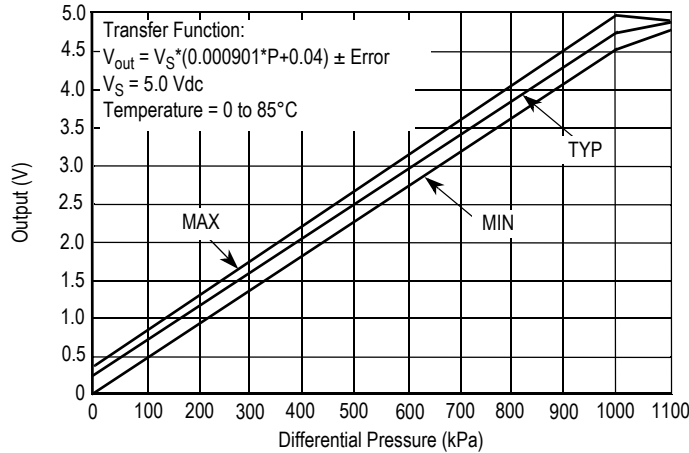
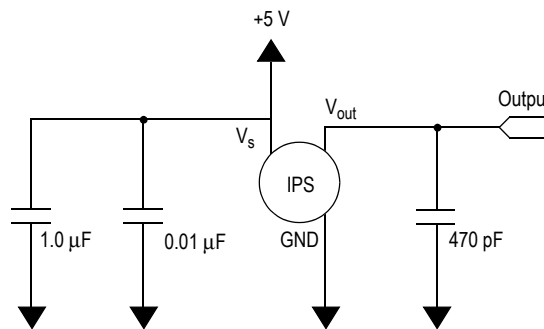

Figure 2. Output versus Pressure Differential
Figure 4. Recommended Power Supply Decoupling and Output Filtering
**Table 2. Operating Characteristics** ( $V_S = 5.0$  Vdc,  $T_A = 25^\circ\text{C}$  unless otherwise noted,  $P_1 > P_2$ . Decoupling circuit shown in Figure 4 required to meet electrical specifications.)
Figure 2 shows the sensor output signal relative to pressure input. Typical, minimum, and maximum output curves are shown for operation over a temperature range of 0° to 85°C using the decoupling circuit shown in Figure 4. The output will saturate outside of the specified pressure range.
Figure 4 shows the recommended decoupling circuit for interfacing the output of the integrated sensor to the A/D input of a microprocessor or microcontroller. Proper decoupling of the power supply is recommended.